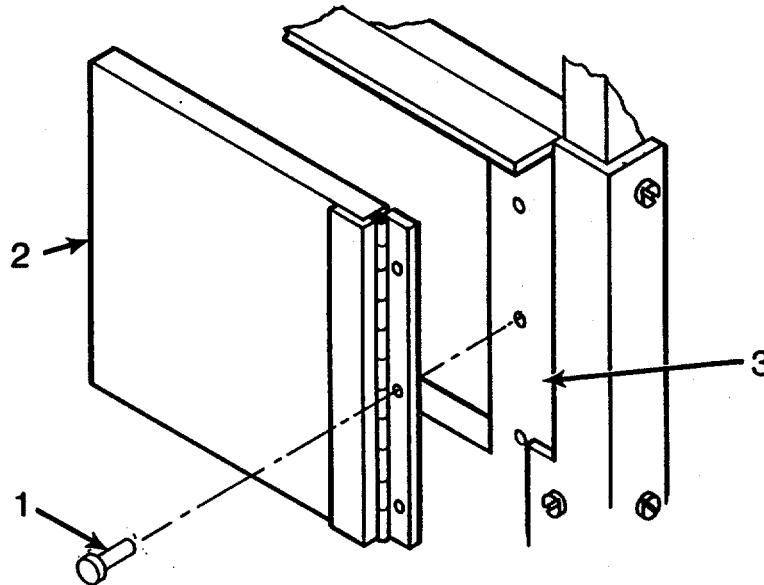

Figure 4-12. Heating Element Access Plate
- c. Repair by replacing heating element access plate (2). (See figure 4-12.)